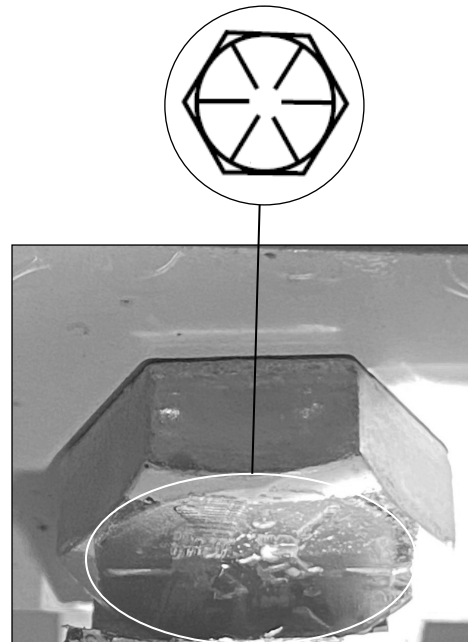

Figure 11 – Grade 8 Head Marking
- A Grade 8 cap screw has six evenly spaced radial lines on the head (refer to Figure 11).